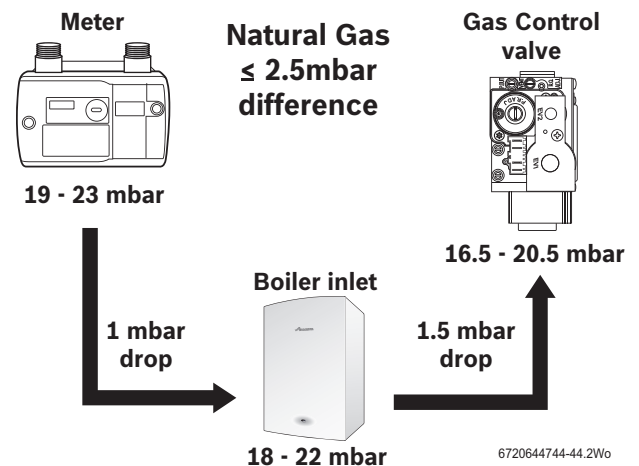
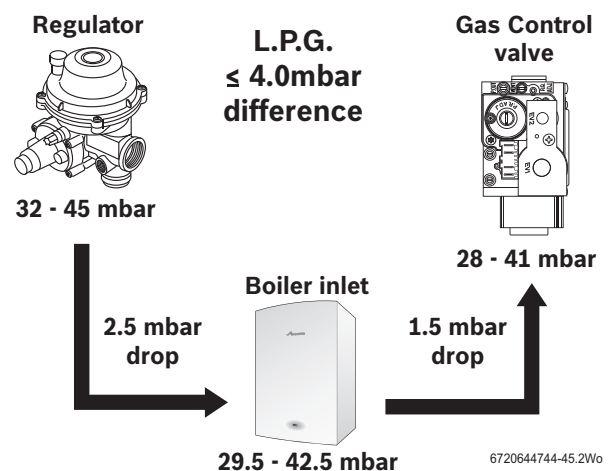

Fig. 63 Natural gas pressures
Fig. 64 L.P.G. pressures
- ▶ Slacken the screw in the inlet pressure test point (1) and connect a manometer.
- ▶ Check the gas supply working pressure at the gas valve conforms to values shown in Fig. 63 or Fig. 64.